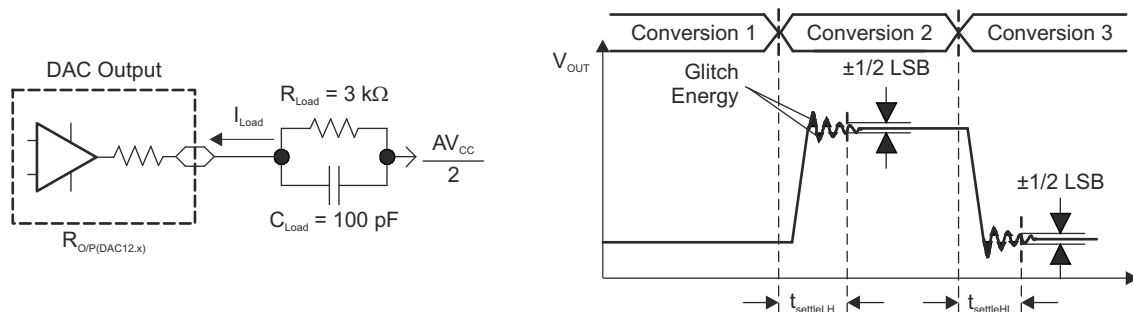
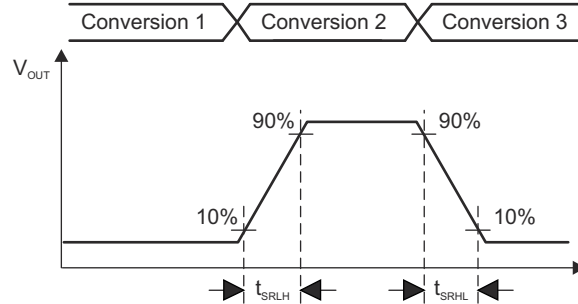

Figure 8-19. Settling Time and Glitch Energy Testing
图 8-20. Slew Rate Testing
V_{REF} = V_{CC}, DAC12IR = 1 (see Figure 8-19 and Figure 8-20), over recommended ranges of supply voltage and operating free-air temperature (unless otherwise noted)
- (1) R_{Load} and C_{Load} connected to AV_{SS} (not AV_{CC}/2) in Figure 8-19.
- (2) Slew rate applies to output voltage steps ≥ 200 mV.